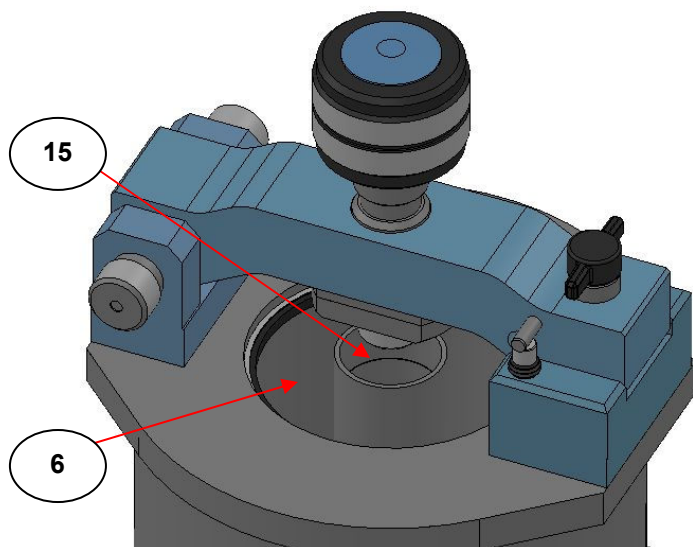

Fig 6. Low Temperature Golden Gate™ Dewar area with Dewar Cap removed. (Inner and Outer Dewar Chambers)
A nitrogen purge that is required to prevent frosting of the optical components in the Golden Gate™ optical unit (11) during low temperature operation is also needed for the central internal area of the dewar assembly (15) above the diamond/tungsten carbide puck (1) when taking reference background spectra for sub-ambient temperature conditions. See Fig 6.